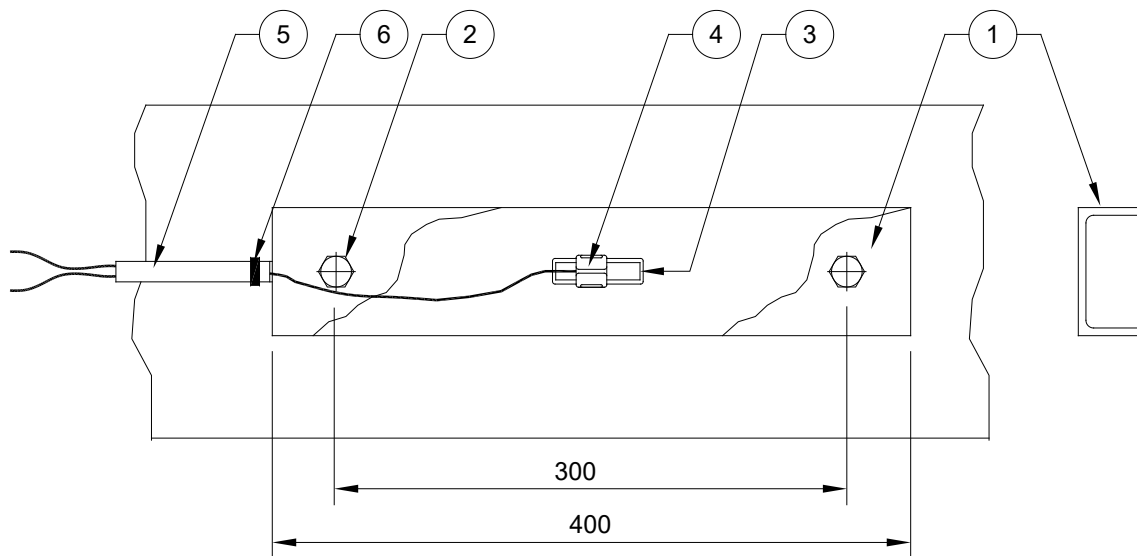

Figure 3.4 - Typical protection
3.5.2 User or designer should ensure proper protection method for installed strain gage and cable. Strain gages require protection from water and mechanical damage caused by normal construction activity, vehicular traffic and vandalism. A typical protection by using a cover plate is illustrated in figure 3.4 on next page.